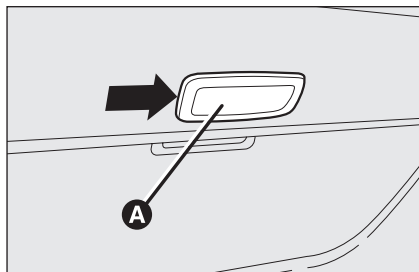

fig. 40
- ☐ remove the light unit **A**-fig. 40 levering in the point shown by the arrow;